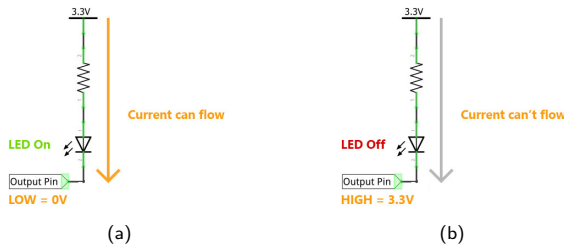

Figure 2.2. Active-low LED circuit: (a) A logical low turns on the LED; (b) A logical high turns off the LED.
- **Active-low:** the active-low LED circuit is shown in Figure 2.2. The LED is on when the output pin is low. It is called active-low because a logical low is needed to activate (turn on) the LED. When a logical low is written to the output pin, the current can flow from the 3.3V through the resistor and LED, and then flows to the GND. Therefore, the LED is on. When a logical high is written, the current can't flow. Therefore, the LED is off.